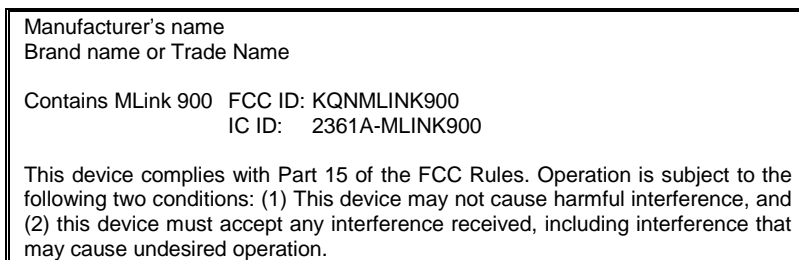

Figure 8.1.1.1 – FCC Label
1. The system integrator must place an exterior label on the outside of the final product housing the MLink 900 Module. Figure 8.1.1.1 below shows the contents that must be included in this label.
The OEM must make sure that FCC labeling requirements are met. This includes a clearly visible exterior label on the outside of the final product housing that displays the contents shown in Figure 8.1.1.1 below.